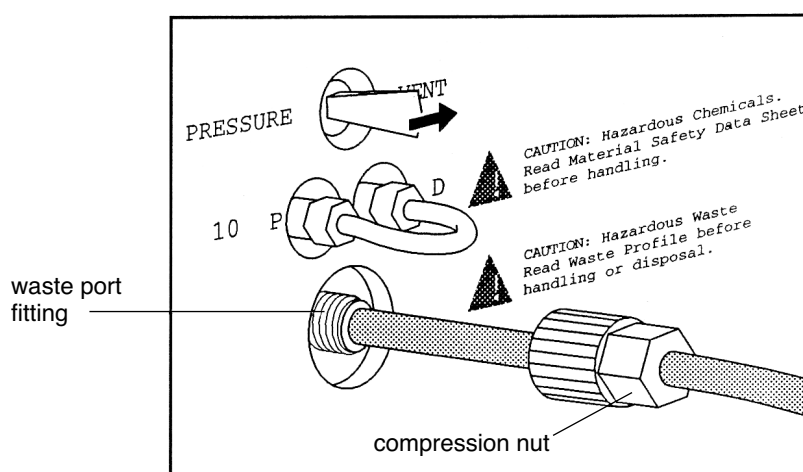

Figure 14. Attaching the waste tubing at the waste port
7. Place the plastic compression nut on the shorter tube from the waste bottle cap assembly. Slip the tube into the Waste port and screw the plastic compression nut over the Waste port fitting (Figure 14). Using a wrench, **gently** tighten an additional 1/4 turn. Be sure to recheck this fitting when running reagents (p. 32).